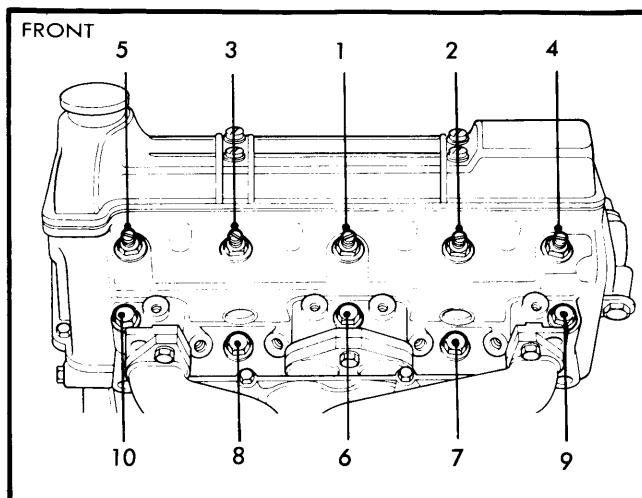

Fig. 1 Cylinder Head Tightening Sequence
2) Unlock and remove top sprocket retaining bolt. Disconnect air hose from air injection check valve and disconnect water pipe from thermostat housing. Disconnect exhaust pipe from manifold. Remove the two cylinder head to timing cover nuts and bolts and loosen cylinder head nuts and bolts in reverse of tightening sequence (See Fig. 1). Remove cylinder head complete with exhaust manifold. To install, reverse removal procedure and tighten bolts to specifications in sequence shown in Fig. 1.